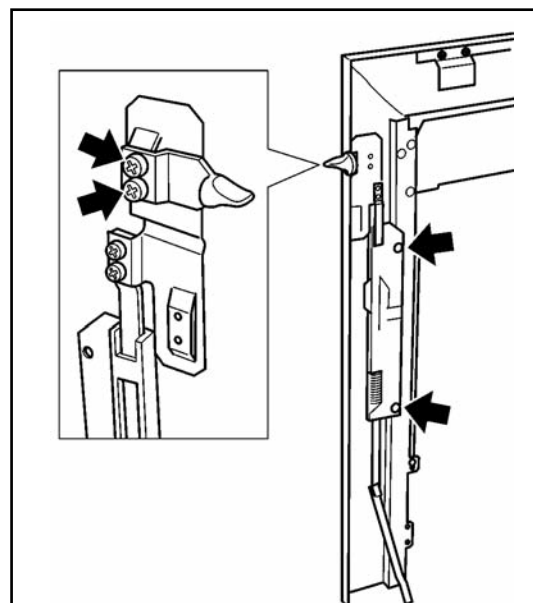

Figure 44. Control slide and button fixings (The slider design may differ from that shown)
2. Detach the slide unit by removing two screws securing the plastic slide mechanism to the rear of the fascia (See figure 44).
3. Detach the slide button by removing two screws (See figure 44).